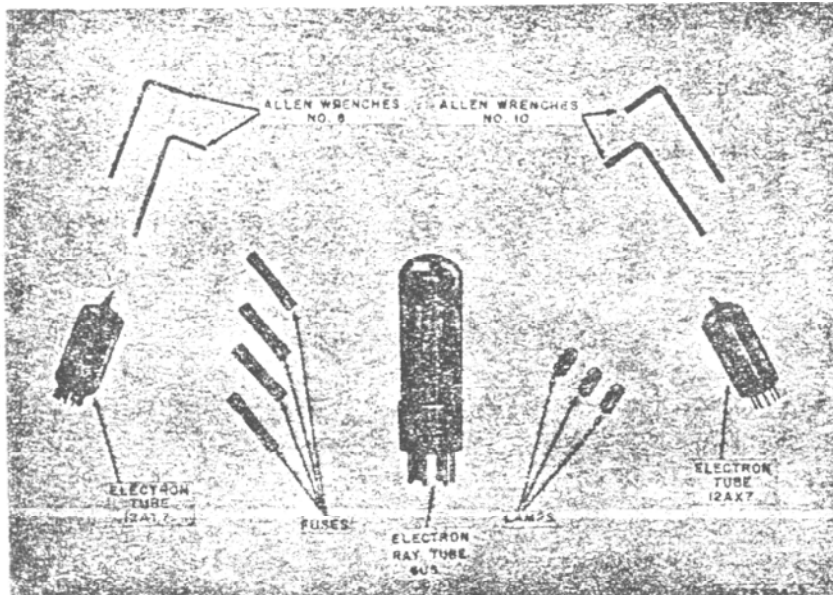

Figure 2. Tools and spare parts of Capacitance-Inductance-Resistance Test Set AN/URM-90.
d. *Tools.* Special tools (fig. 2), two No. 8 and two No. 10 Allen wrenches, are supplied with the test set for disassembly purposes.